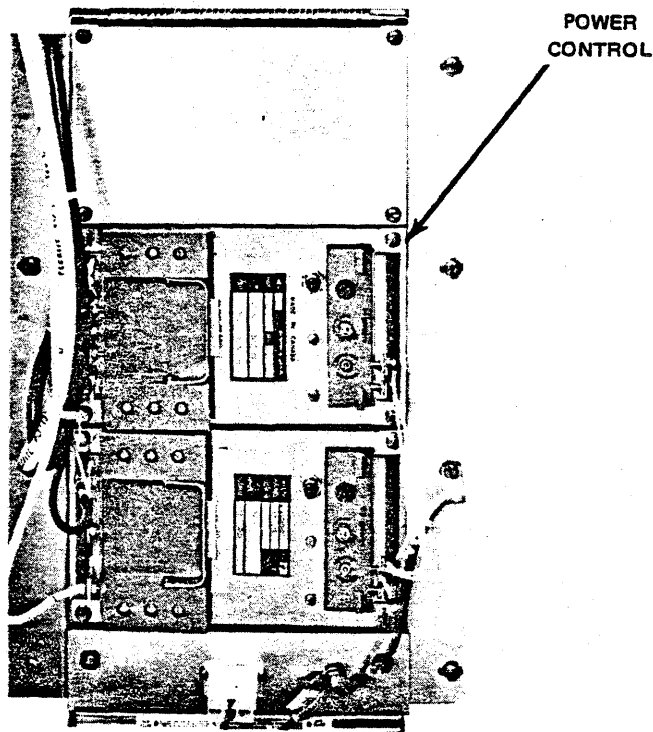
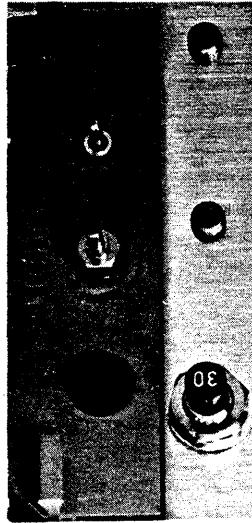

Figure 3-11. Power Control (Rear View Doors Open)
Figure 3-12. DC Regulator Panel
The rear of the MSA portion of the SCU is shown with cabinet doors open in Figure 3-11. Figure 3-12 shows the power supply panel and Table 3-4 describes each switch and indicator; the panels on the two regulators are identical.
3. At each dc regulator panel (Figures 3-11 and 3-12):
The turn off of dc power is performed by reversing the order of the turn-on procedure. This procedure will remove dc power from the MSA portion of the SCU cabinet. If dc power is turned off because of some abnormal condition, check the DS01 indicator lights (Figure 3-11 and 3-12) on both dc regulator panels. If an indicator light is out, check the corresponding CB01 circuit breaker, set circuit breaker switch to OFF (out) then set to ON (in). If breaker trips again, perform turn-off procedure and then call Sperry Univac customer engineer.